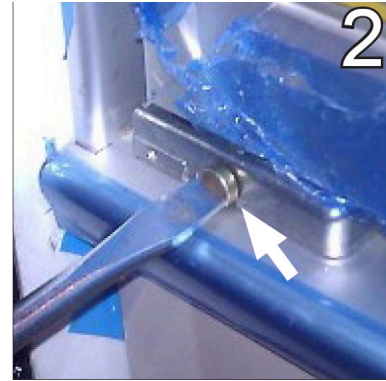

Fig. 68 Release tension from closing mechanism
2. Release the tension from the closing mechanism at the bottom of the door using a flat-head screwdriver, turning until the screw is free of tension (Fig. 68).